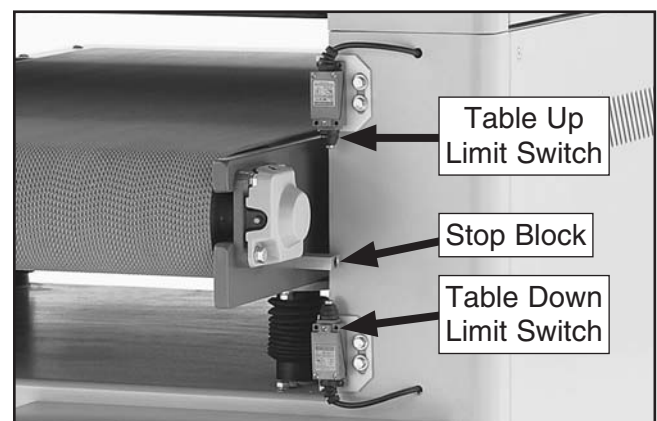

Figure 47. Table limit switches.
5. Loosen the mounting bolts for the table-down limit switch and slide the switch so the switch plunger depresses against the stop block and you hear the switch click (see **Figure 47**).
7. Loosen the limit switch bolts and move the switch so the plunger depresses against the stop block and you hear the switch click (see **Figure 47**), then tighten the bolts.